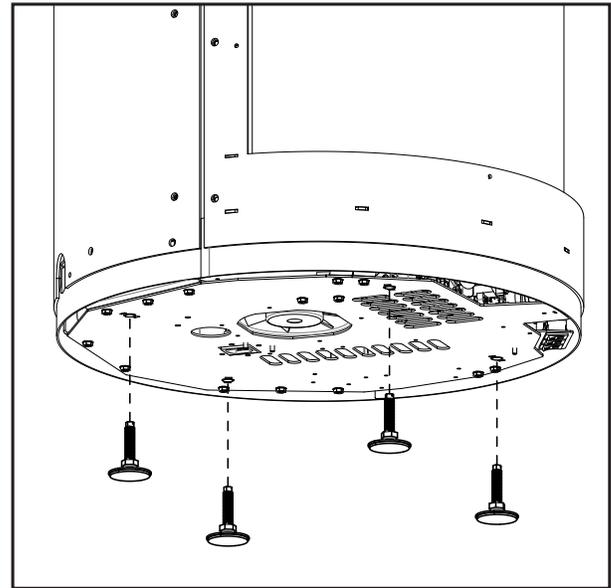

Figure 70: Leveling Leg Removal
Remove the four (4) leveling legs from the bottom of the unit (see Figure 70). These leveling legs will be reinstalled on the pedestal.